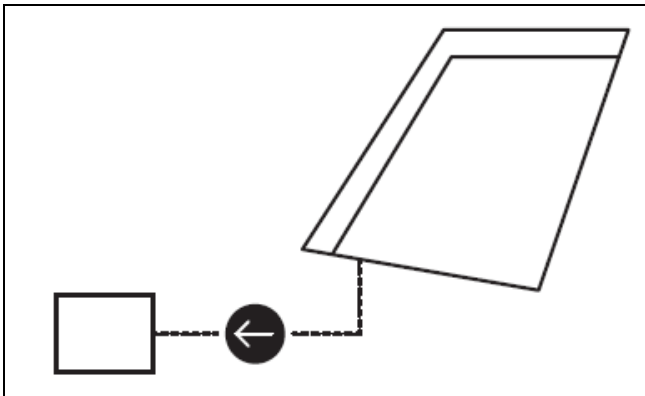

Figure 57
2. If needed, run the cable to a junction. See Figure 57.